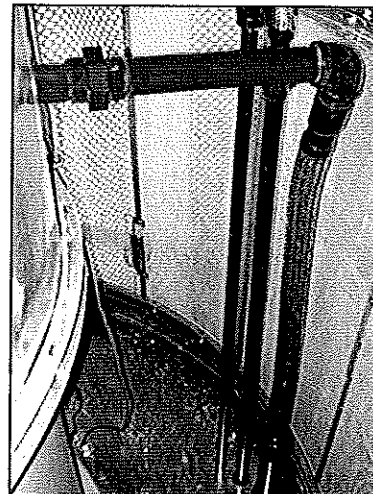

Figure 28
The 1½" 10520, 10630, and 10730 and the 2" 101050 and 101275 Burner Vapor Supply lines from Burner Control Manifold to Burner use 1½" Stainless Steel Braided Hoses with unions to connect to the Burner. (1) of the 2" unions has a 2" to 1½" reducer bushing for the 1½" Braided Hose. See Figure 28.